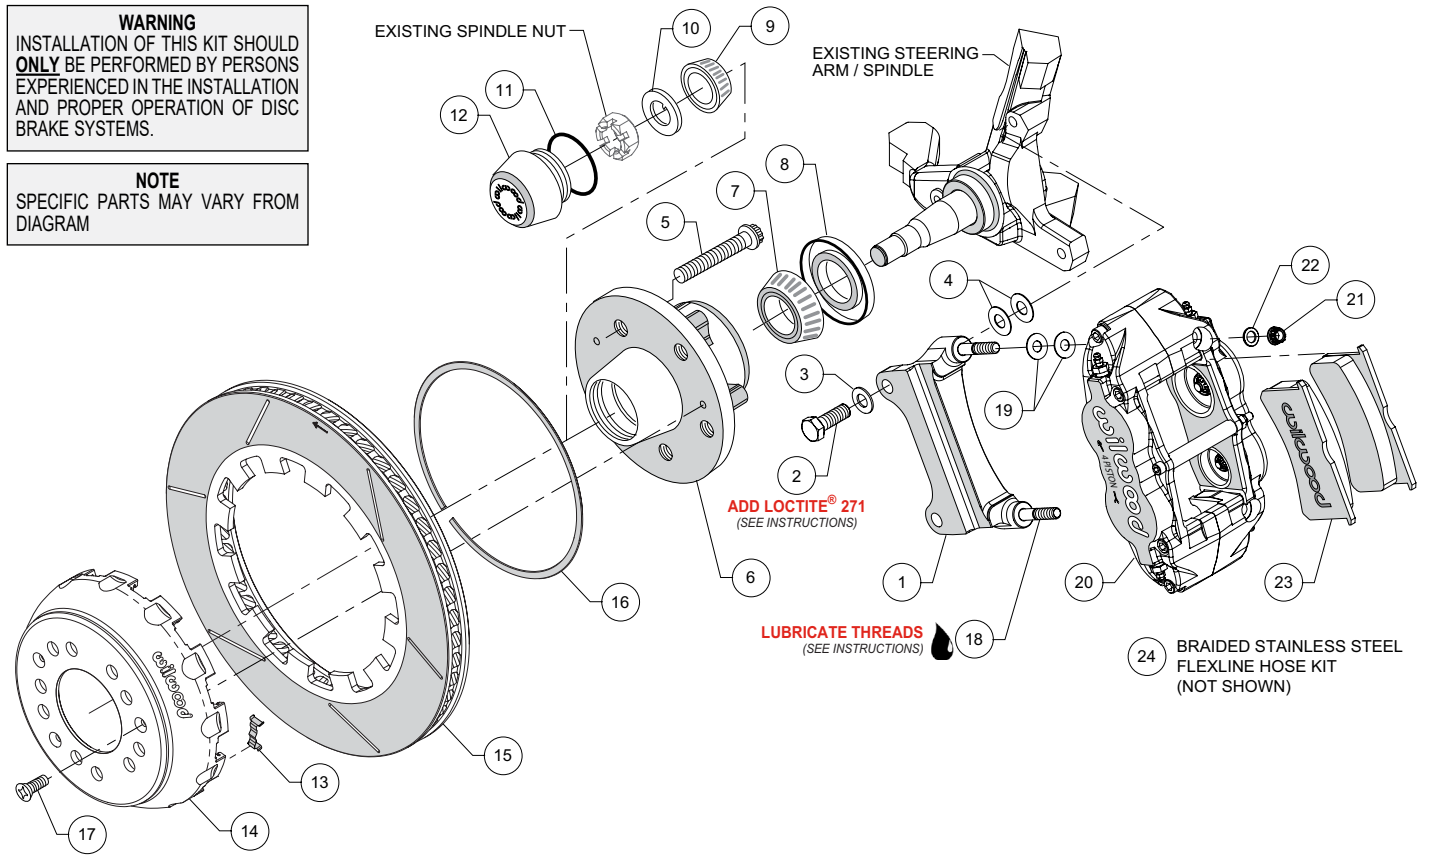

Figure 2. Typical Installation Configuration
NOTE: Numbers in parenthesis refer to the parts list and Figure 2 on the preceding pages.
- The caliper mount bracket (1) should initially be installed with clean, dry threads on the mounting bolts. Orient the bracket as shown in Figure 2 and Photo 1, and install using bolts (2) and washers (3). Initially place two .033" thick shims (4) on each bolt between the bracket and upright, Figure 2. Temporarily tighten the mounting bolts. **NOTE:** The bracket must fit squarely against the mounting points on the spindle. Inspect for interference from casting irregularities, machining ridges, burrs, etc. Later, after the caliper alignment has been checked, the mount bolts will be secured using red Loctite® 271.
- Install wheel studs (5) into the hub (6), Photo 2. Torque to 77 ft-lb.
- Pack the large inner bearing cone (7) with high temperature disc brake bearing grease (available from your local auto parts store) and install into the backside of the hub (6), Photo 3.
- Install the grease seal (8) by pressing into the backside of the hub (6), flush with the end of the hub, Photo 3.
- Insert the dynamic mount wear clips (13) into the slots in the hat (14), Photo 6. Orient the rotor (15) as shown in Figure 2 and Photo 7, with the flush side of mount lugs facing the hat. Secure the rotor to the hat using the snap ring (16) by simultaneously pushing down on the rotor and installing the ring into the groove in the hat, as shown in Photo 8. Carefully inspect snap ring to ensure complete engagement in the groove.
- Slide the hat/rotor assembly onto the hub assembly. **NOTE:** The hat must fit flush against the hub flange or excessive rotor run out may result. Install three flat head screws (17) through the small holes in the hat, Photo 9, and torque to 85 in-lb.
- NOTE:** This kit contains distinct right and left hand calipers that must be mounted in a specific direction, as described below. Lubricate the caliper mounting studs (18) with lightweight oil. Initially place two .035" thick shims (19) on each stud between the caliper and the bracket, as shown in Figure 2 and Photo 10. Mount the caliper (20) onto the bracket (1) using lock nuts (21) and washers (22), Figure 2. Ensure that the caliper is mounted so the largest pistons are at the rotor exit end of the caliper, in relation to the forward rotation of the rotor. Temporarily tighten the lock nuts and view the rotor through the top opening of the caliper. The rotor should be centered in the caliper, Photo 11. If not, adjust by adding or subtracting shims (4) between the bracket and the spindle. Always use the same amount of shims on each of the two mounting bolts. Once the caliper alignment is correct, remove the bracket mounting bolts (2) one at a time, apply red Loctite® 271 to the threads, and torque to 60 ft-lb.